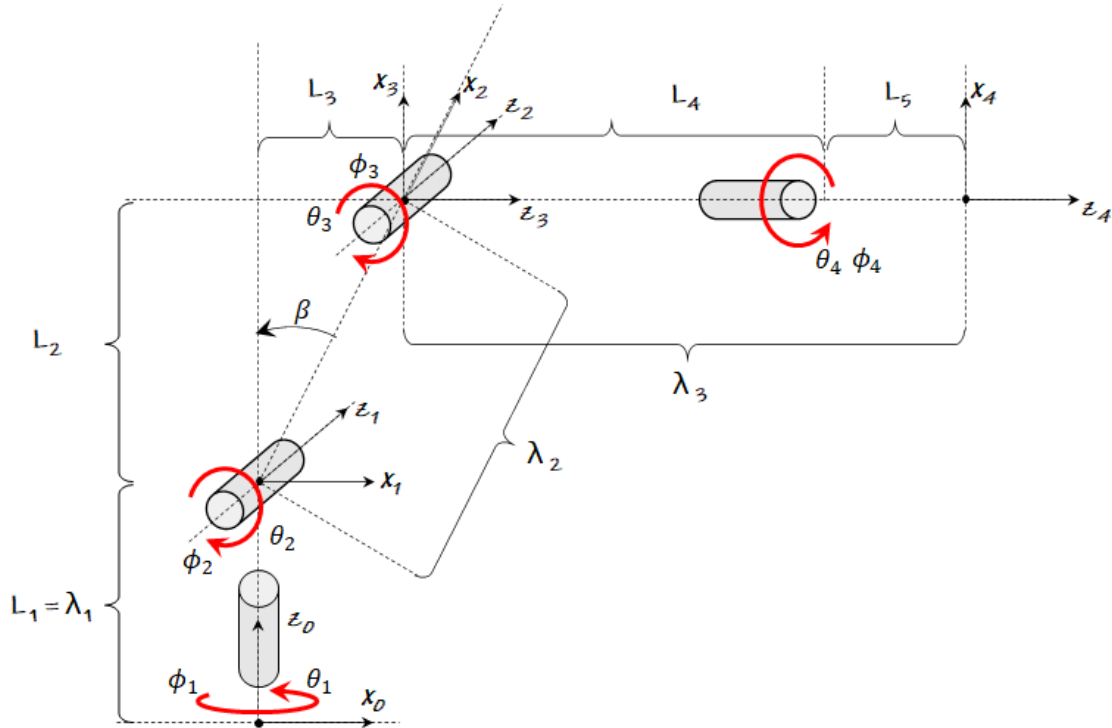

Figure 1. Frame diagram for the Quanser Arm manipulator
The Quanser Arm's frame diagram is attached in Figure 1. This was developed using the Standard Denavit Hartenberg (DH) parameters [1].
Note that the manipulator shown in Figure 1 is currently in its home position. In this state, the joint space vector  $\vec{\theta}$  is,
The DH table corresponding to the frame diagram in Figure 1 is presented in Table 2.